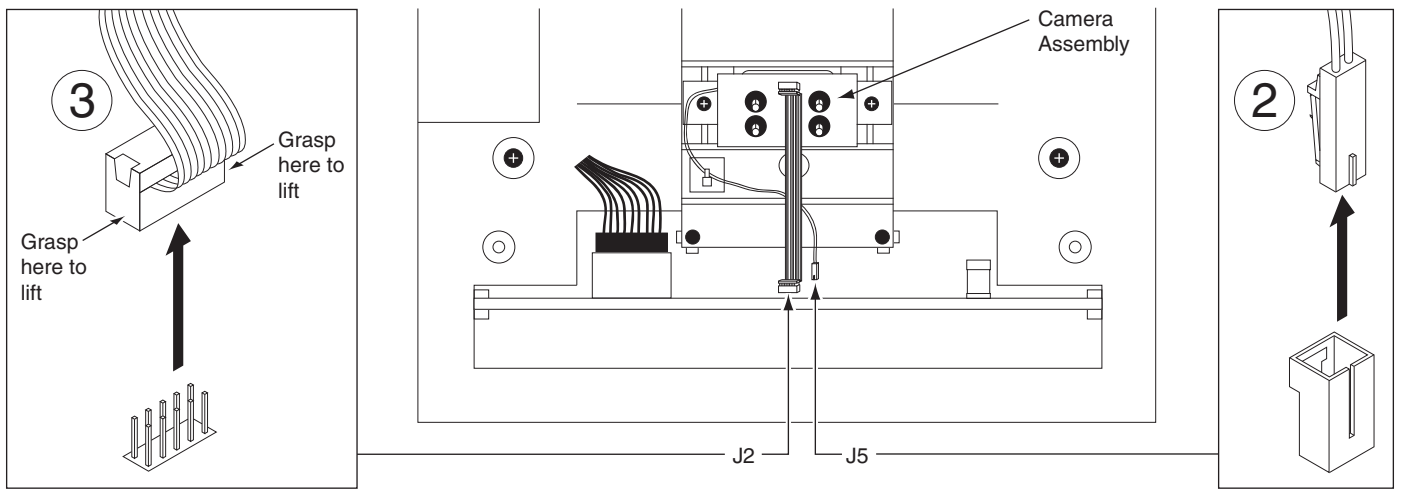

Figure 5
8. Carefully slide the main circuit board out until the ribbon cable between the camera assembly and J2 on the main circuit board is accessible. First, disconnect the J5 connector from the main board. To remove, depress the retaining clip on the J5 connector and pull upwards. See "2" on figure 5 on the following page. Next, remove the ribbon cable from J2 by gently pulling up on this cable, being careful not to pull down as damage may occur to the camera assembly. See "3" on figure 5 on the following page.